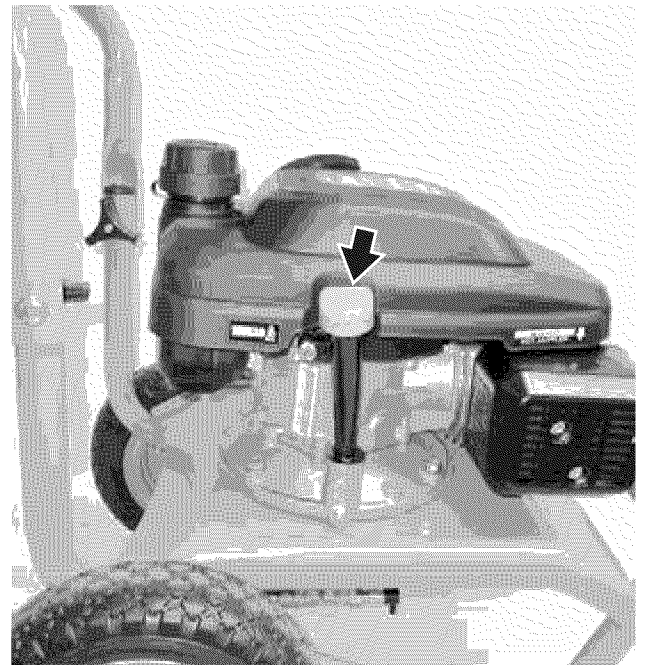

Figure 49 – Oil Fill Plug/Dipstick
5. Remove oil fill plug/dipstick (see Figure 49).